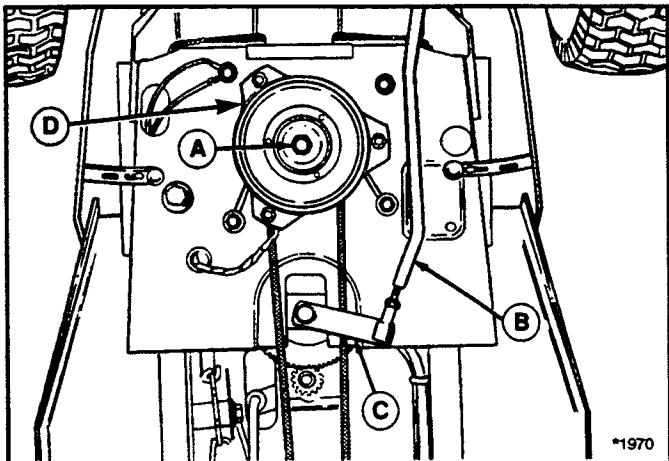

Figure 39. Drive Belt Engine Pulley
5. See figure 39. To remove belt from engine pulley, the electric clutch must be removed and the belt slid over the top of the pulley. Disconnect the clutch wire. Remove the capscrew (A) along with the washer and lockwasher securing the electric clutch to the engine crankshaft. Slide belt over the top of the engine pulley.
6. See figure 39. Install new belt over engine pulley before re-installing the electric clutch. Install washer, lockwasher and capscrew (A). Lubricate weld tab on underside of tractor (D). Make sure tab is aligned with hole in top of electric clutch, then tighten capscrew to 45-50 ft. lbs. Recheck torque after 1 hour of operation.
7. See figure 39. On left-hand side of tractor, remove nut securing drag link (B) to steering arm (C). Drop old belt below drag link. Route new belt above drag link before re-installing nut on drag link, then tighten nut.
6. See figure 39. Install new belt over engine pulley before re-installing the electric clutch. Install washer, lockwasher and capscrew (A). Lubricate weld tab on underside of tractor (D). Make sure tab is aligned with hole in top of electric clutch, then tighten capscrew to 45-50 ft. lbs. Re-check torque after 1 hour of operation. Reconnect the clutch wire.